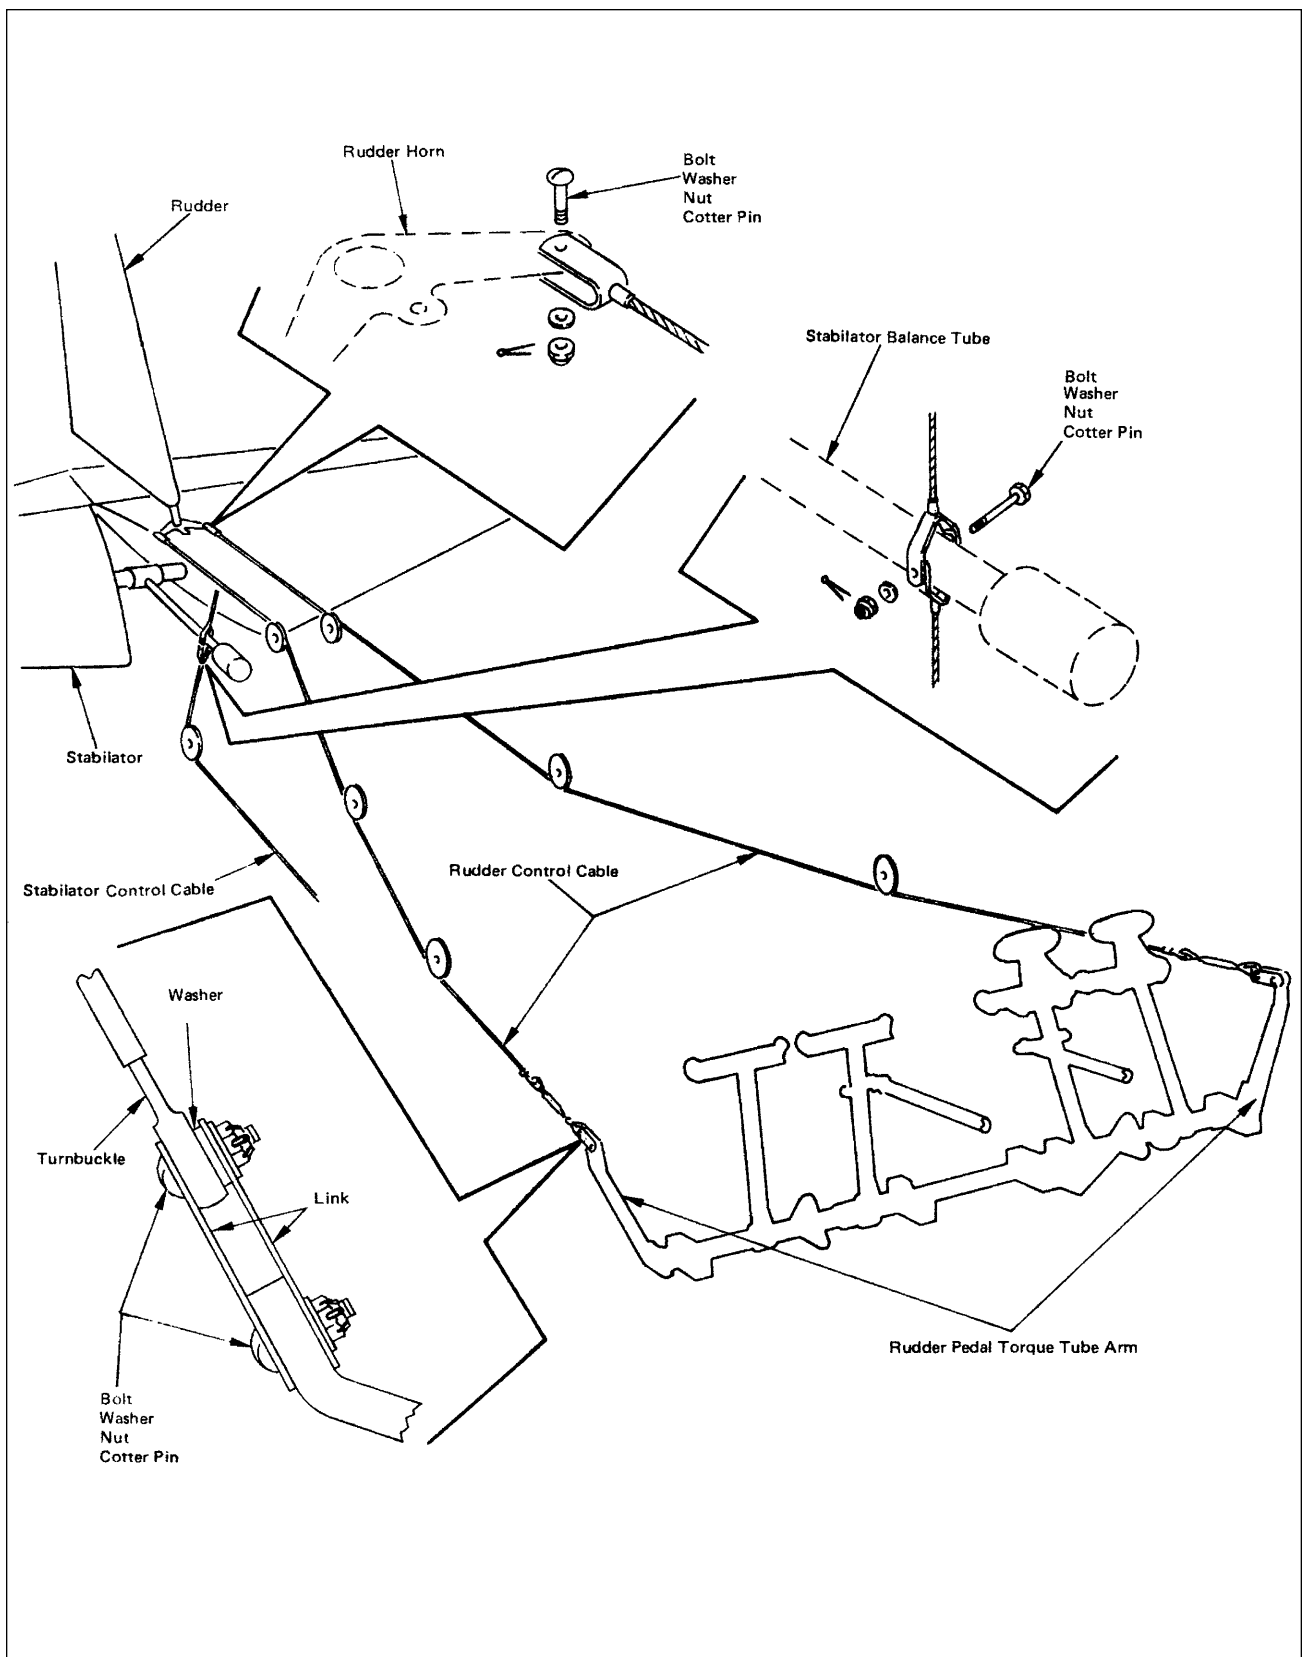

Figure 3-16. Stabilator and Rudder Control Cable Attachment Inspection
- (20) STABILATOR AND RUDDER CONTROL CABLE ATTACHMENT INSPECTION. Each 100 hours time-in-service or annually, whichever comes first, inspect stabilator and rudder control cable attachments as follows: (see Figure 3-16)